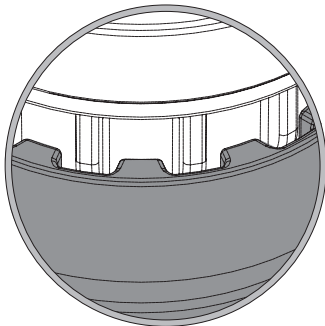
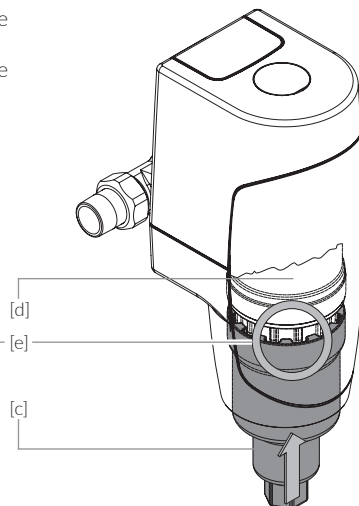

Fig. 8.8
Fig. 8.7
- / according to Fig. 8.7 / Fig. 8.8, put the maintenance nut [c] included in the scope of delivery over the filter cap [d] in such a way that the rib contours of both parts interlock [e].